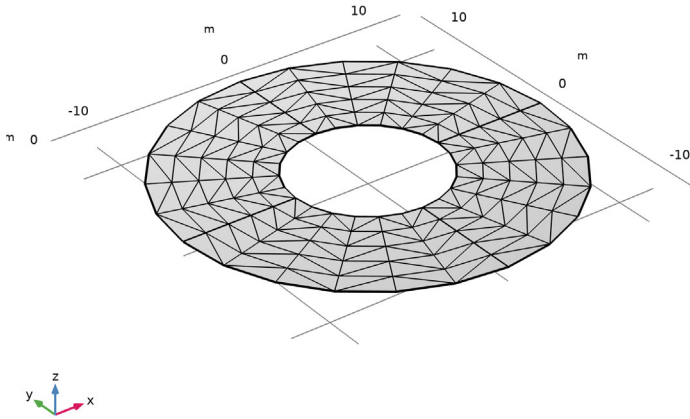
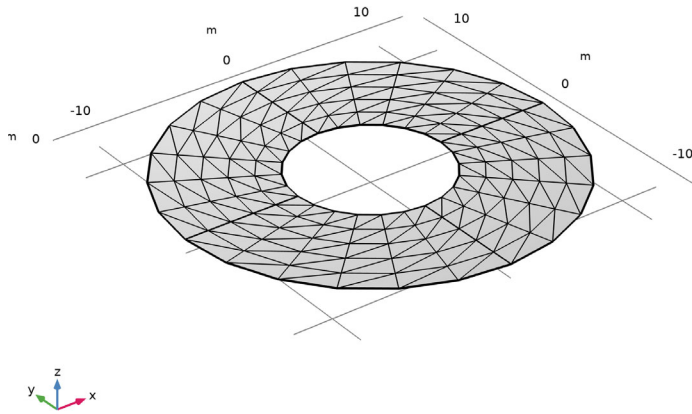
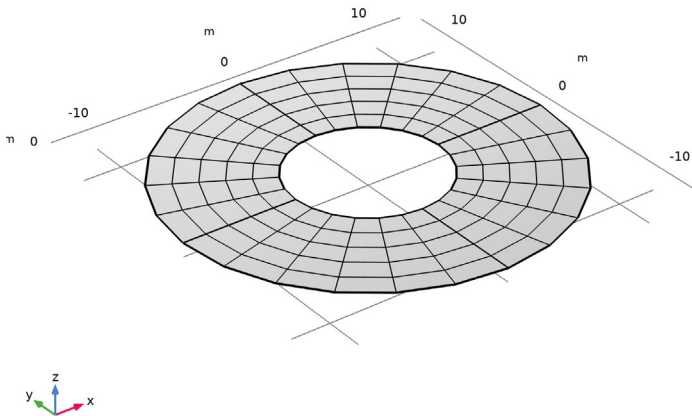
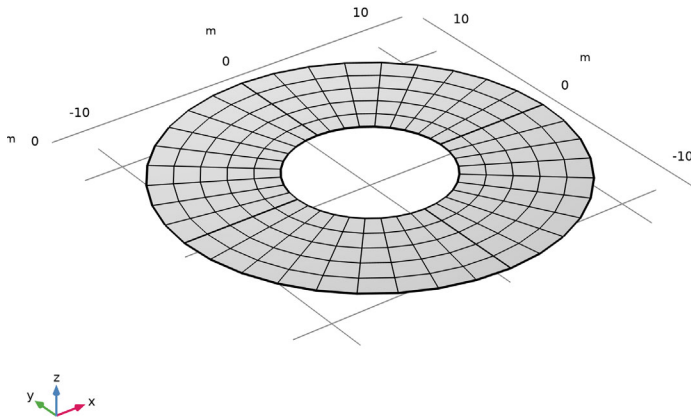

Figure 1: The triangular mesh with 240 mesh elements from Ref. 1.
Figure 2: The triangular mesh with 240 elements from Ref. 4.
Figure 3: The quadrilateral mesh with 120 elements from Ref. 3.
Figure 4: The quadrilateral mesh with 180 elements from Ref. 2.
In Ref. 1 and Ref. 4, three-noded triangular mesh elements are used, but the mesh patterns differs. In Ref. 3, four-noded quadrilateral elements are used with 120 mesh elements, while Ref. 2 uses nine-noded quadrilateral elements with 180 mesh elements. This gives four different mesh pattern to investigate, as shown in Figure 1, Figure 2, Figure 3, and Figure 4.
- Upper left — Three-noded triangular elements as shown in Figure 1
- Lower left — Three-noded triangular elements as shown in Figure 2
- Upper right — Four-noded quadrilateral elements as shown in Figure 3
- Lower right — Nine-noded quadrilateral elements as shown in Figure 4
The choice of mesh pattern shown in Figure 2 seems not desirable for this example. The physics is symmetric while the mesh is antisymmetric. If the counterclockwise torque (same as all references) is replaced by a clockwise torque, then the results are the same for all mesh and discretization patterns except the one used in Ref. 4. With clockwise torque the maximum first principal stress for isotropic and orthotropic material reached 26.03 kPa and 270.23 kPa, respectively. This can be compared with 17.48 kPa and 163.4 kPa obtained with counterclockwise torque. It can be noted that these values match what is reported in Ref. 4 much better.